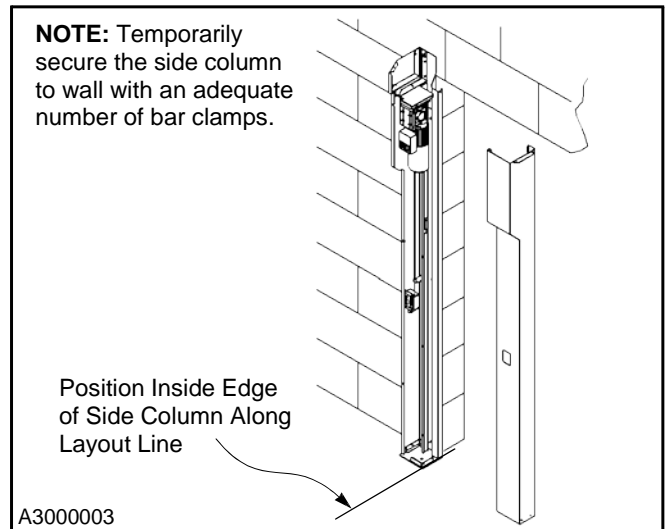

Figure 13
5. Align the inside edge of the side column with the production width line laid out earlier on the floor. Then temporarily secure the side column to the wall using bar clamps. (See Figure 13.)